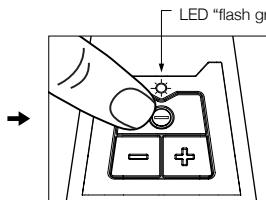

Figure 2
2. Press the power on/off button "Θ" on the button plate to switch on the sander. The LED indicator shows "flash green" color after sander being switched on. - see *figure 2*.